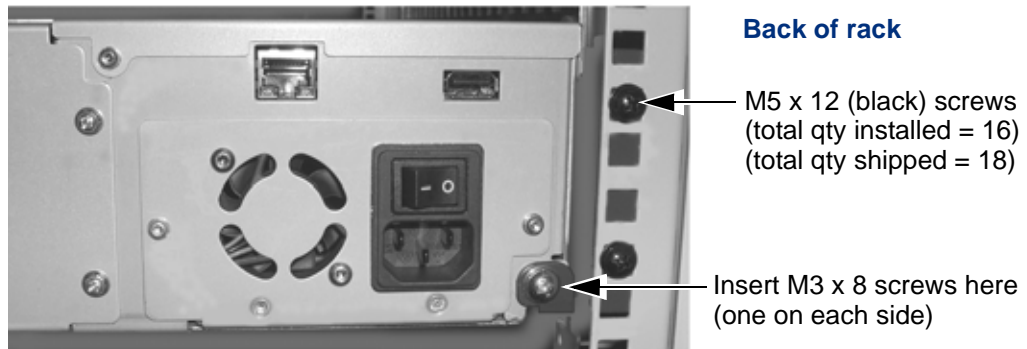

Figure 2-5 Attaching the library to the rails at the back of the rack
- Remove the shipping lock from the library (if it is still installed). Carefully slide the library all the way back until it makes contact with the small flanges at the back of the rails (see Figure 2-5).